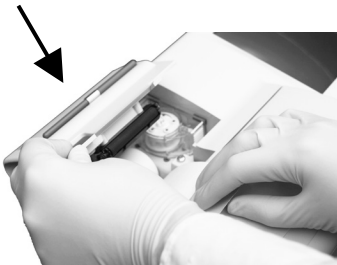

Fig. 7-30 Close Printer Cover
4. Hold the paper and close the printer cover (Fig. 7-30).